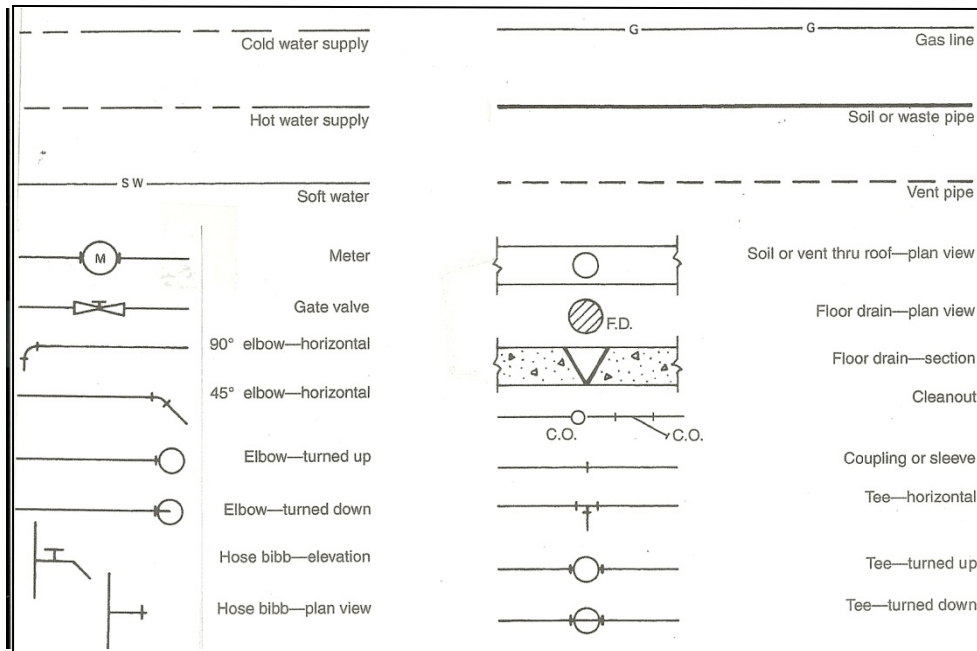

Figure IX.1 Common Plumbing Symbols
**IX.1. Water distribution system** – The water distribution system includes the main supply line to the building from the municipal water meter, individual well, or other source of supply. All pipes that take water from the main to the various service outlets (water heaters, sinks, water closets, hose bibs etc.) are called distribution pipes. The distribution system also includes all of the control valves. Symbols for plumbing fixtures are pictorial representatives of the fixtures and they are shown on the plan views and on interior elevation views. The most commonly used symbols for plumbing are shown in Figure IX.1